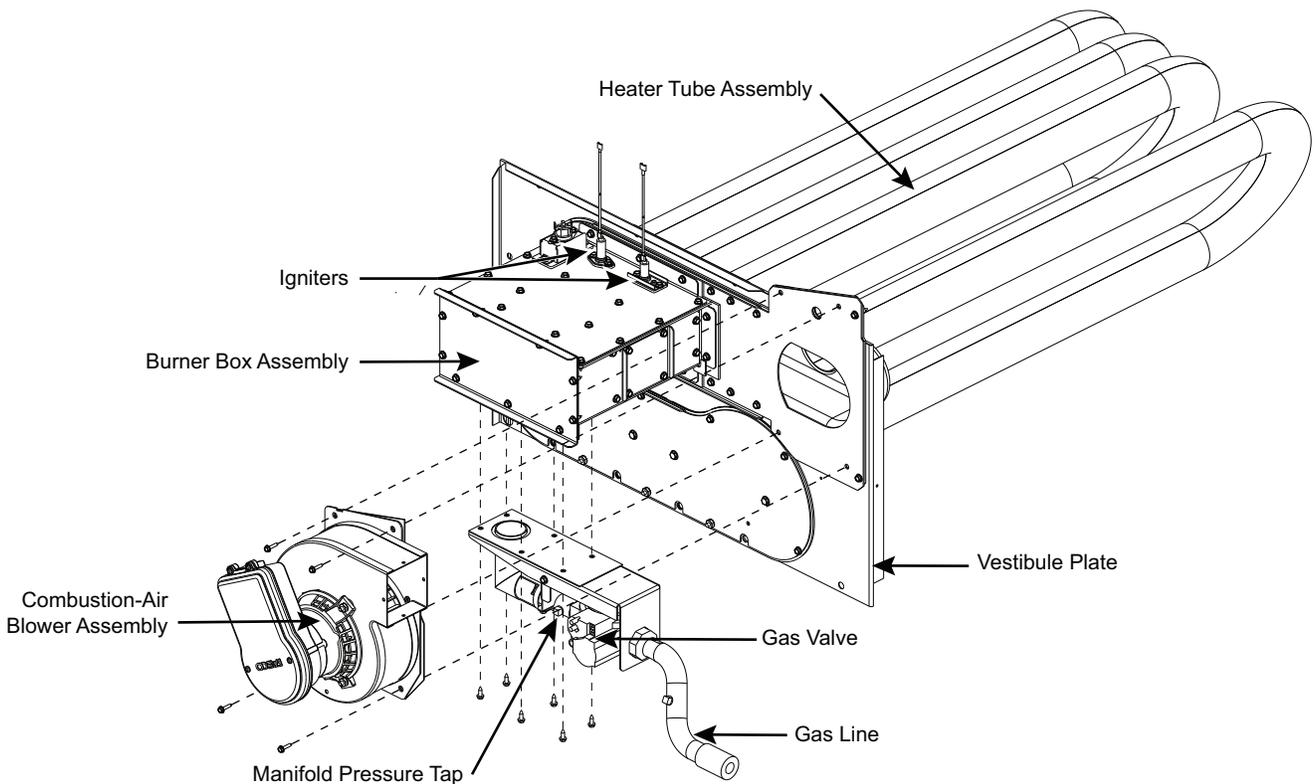

Fig. 50 — Heat Exchanger Assembly
2. Remove the four screws attaching the induced-draft motor housing to the vestibule plate. (See Fig. 50.)
9. Remove the six screws attaching the gas valve assembly to the burner box assembly (see Fig. 50).